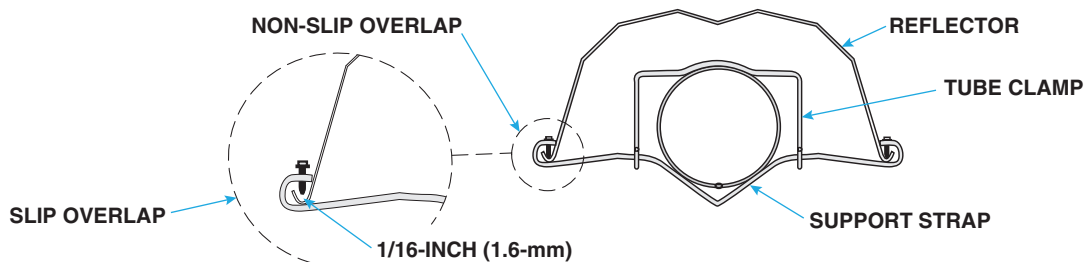

Figure 13. Reflector Support Strap Installation
- b. Install reflector support strap assembly (support strap, tube clamp, and screws, see Figure 13) in middle of reflector to secure reflector to tube. Tighten screws.
- c. Slide second reflector through suspension brackets and overlap first reflector at least 6 inches (16 cm). Install reflector support strap assembly within overlap and secure support strap using non-slip overlap (see Figure 13).
- d. Install remaining reflectors and support straps using non-slip overlaps (tightened screws) for every two-out-of-three overlaps and slip overlaps (loose screws, see Figure 13) for every third overlap. Secure reflectors together using U-clips where suspension bracket occurs inside non-slip overlap.